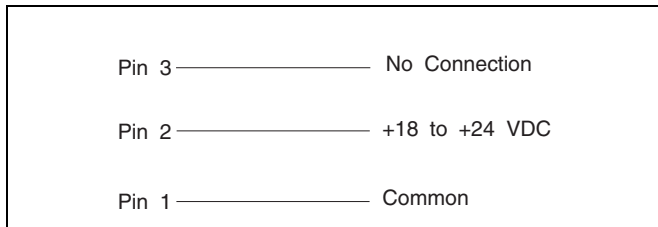

FIGURE 3. LINE LOOP Connector Wiring for 2-Channel Operation with Non-RTS Power Supply.
3. On the bottom side of the main circuit board, cut the trace as shown in Figure 3.
Rear Panel Assy (Refer to Figure 3, "Rear Panel Assembly, BP325," on page 19 drawing for Item No. locations)